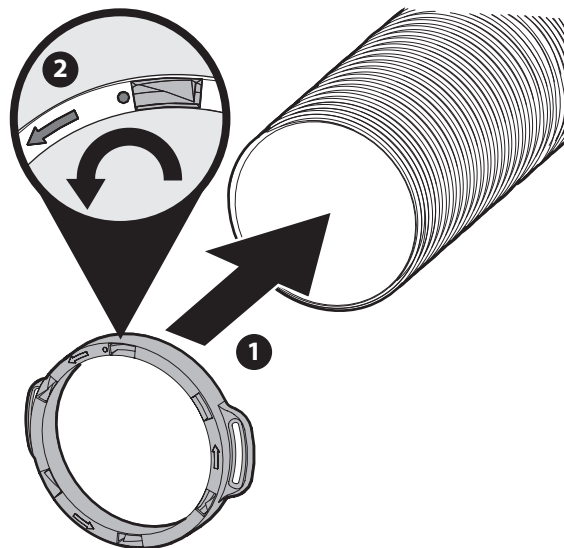

Figure 24
2. Install ring (731-12353A) onto free end of hose by aligning start of hose ribbing with the ring window next to a molded dot. See inset in Figure 24.